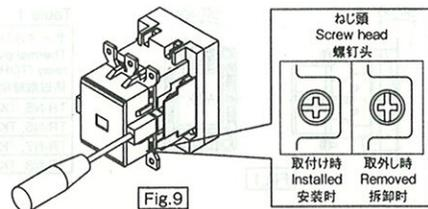

Fig.9
7.3 消弧室の取付け・取外し (Fig.9)
7.3 The removal and installation of arc chamber (Fig.9)
7.3 灭弧室的安装・拆卸 (Fig.9)